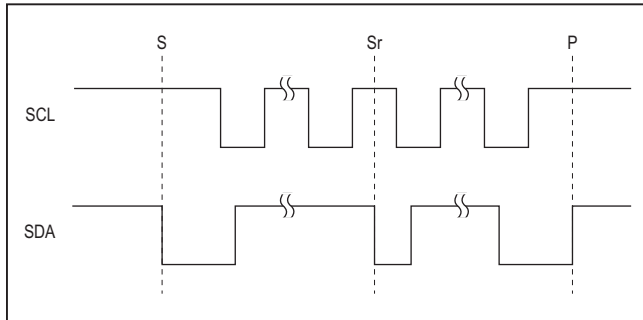

Figure 5. I2C START, STOP, and REPEATED START Conditions
When writing to the MAX14720/MAX14750 using I2C, the master sends a START condition (S) followed by the MAX14720/MAX14750 I2C address. After the address, the master sends the register address of the register that is to be programmed. The master then ends communication by issuing a STOP condition (P) to relinquish control of the bus, or a REPEATED START condition (Sr) to communicate to another I2C slave. See Figure 5.